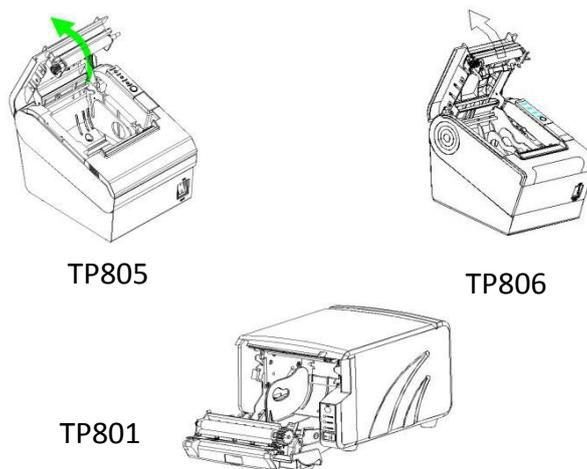

Figure 4.6.1
- 2) Pressing the open button, open the top cover of TP805\TP806 or front cover of TP801. ( Like figure 4.6.1 )